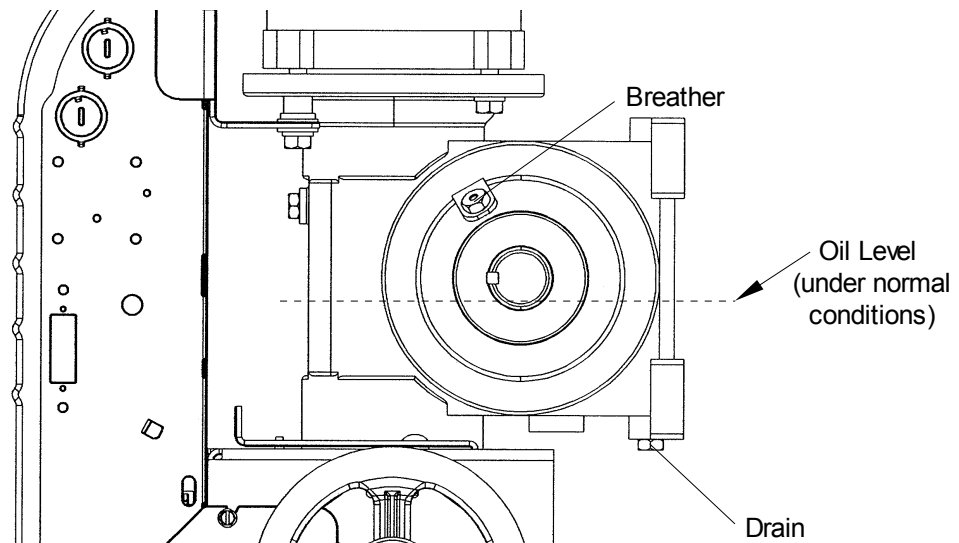

Figure 40 - Gear Reducer Breather
1. Unfasten and remove the breather, refer to Figure 40.